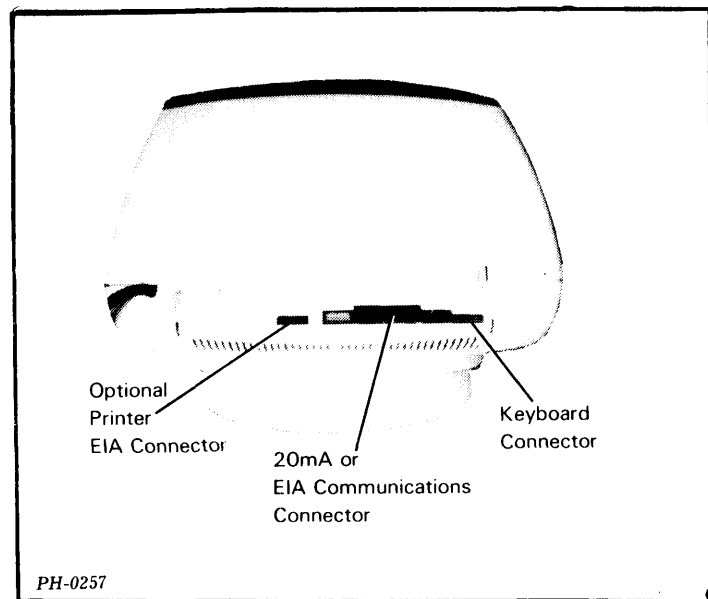

Figure 5.1 Connectors
1. Disconnect the communications cable and the printer cable (if present) from the rear of the display unit (see figure 5.1).
- Plug the printer's EIA cable into the correct receptacle at the rear of the terminal and turn on the printer (see figure 5.1).